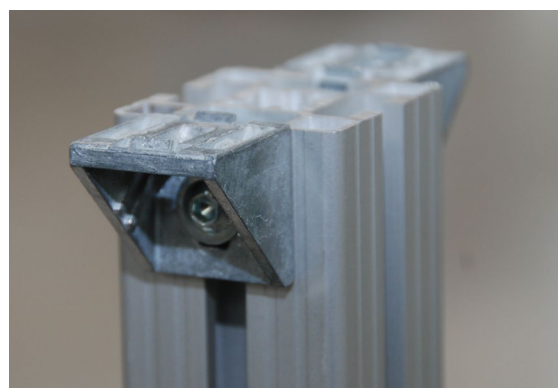

fig. 3.1-22
**930 mm | 36.61 inch** from the inner edge of the side supports to the middle of the screws the profile angles will be screwed on with. Attach two (2) profile angles **A2e** to the long and the short frame profiles again (**fig. 3.1-22 and fig. 3.1-23**). Afterwards tighten the profile connectors of the long frame profile **A2c** with a corresponding Allen key (ca. 25Nm).